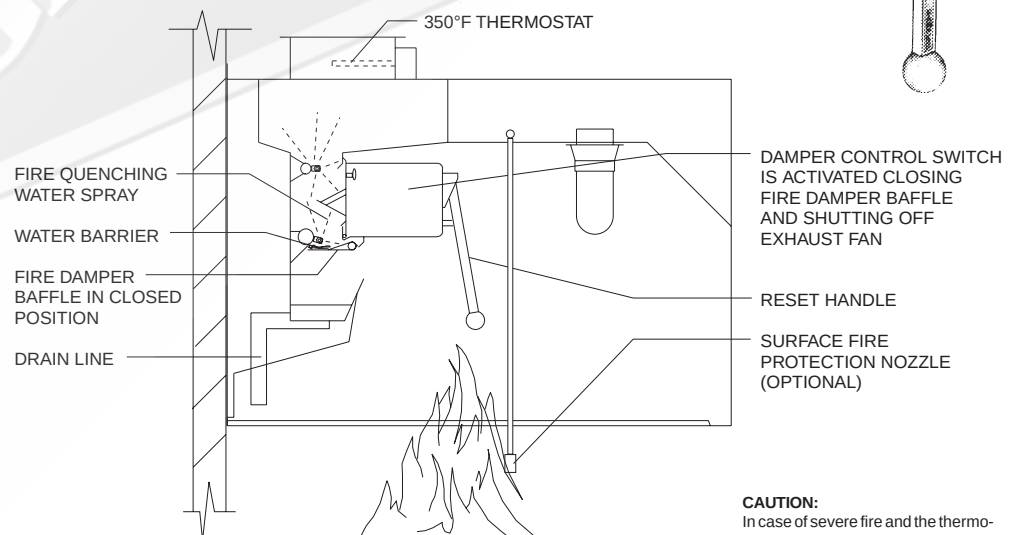

FIG. 6
1. The hinged, grease-extracting fire damper baffle at the air inlet of the ventilator closes — stopping the combustion-supporting, natural draft through the ventilator. (Refer to Figure 6)